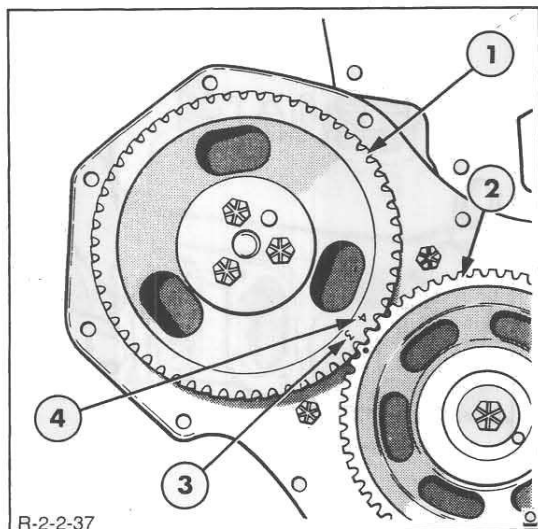

Figure 40
3. Ensure that the injection pump drive gear is correctly meshed with the camshaft drive gear so that the timing marks are aligned, Figure 40.